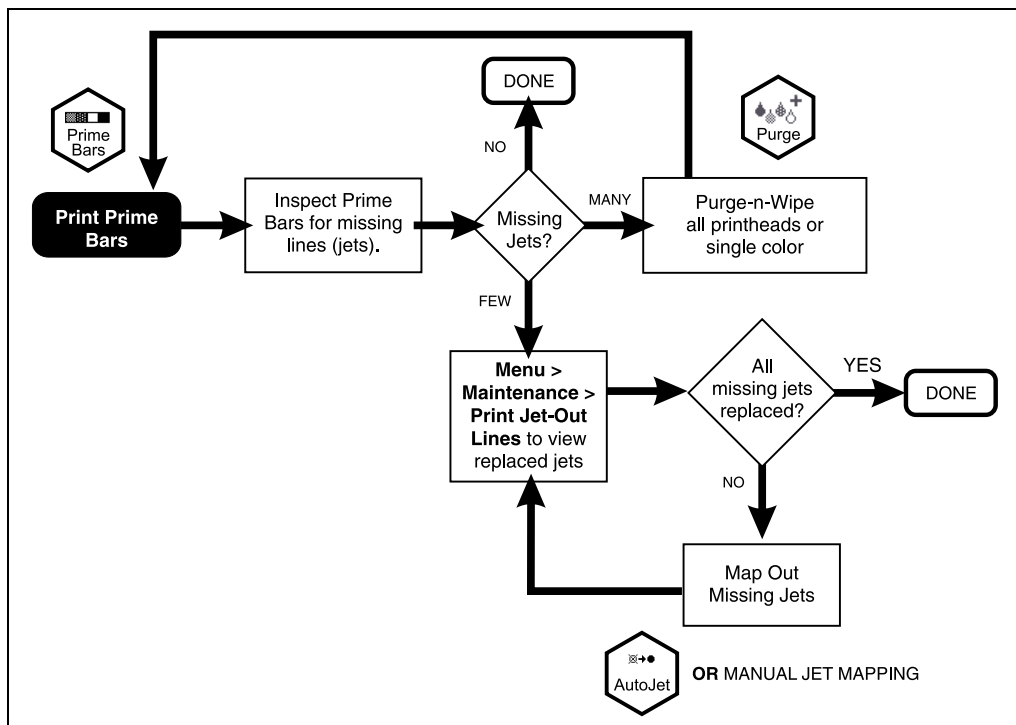

Fig. 3-1. Checking jet health and recovering jets
4. Repeat this process until all jets are working or substituted for another jet. This process is summarized in Fig. 3-1, below.